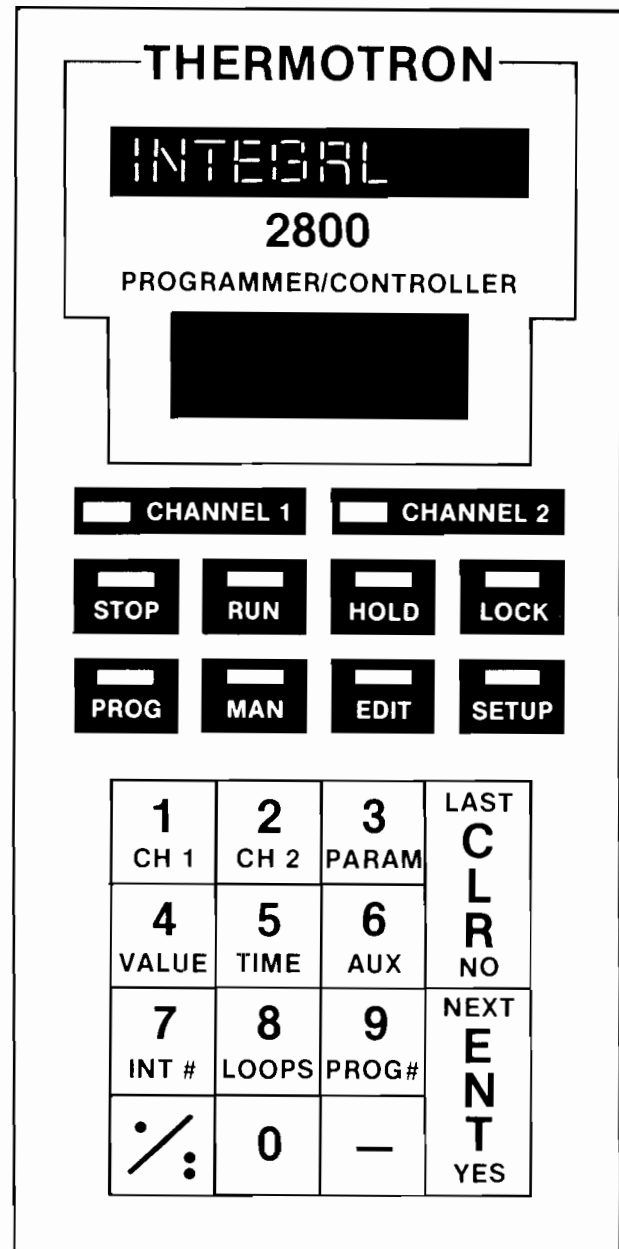

FIGURE 10
1. Press the **PARAM (3)** key.
2. To scroll through the display, press the **ENT (NEXT)** key until the display shows **INTEGRL**. See Figure 10.
3. Press the **PARAM (3)** key.
4. To scroll through the display, press the **ENT (NEXT)** key until the display shows INTEGRL. See Figure 10 on Page 20.